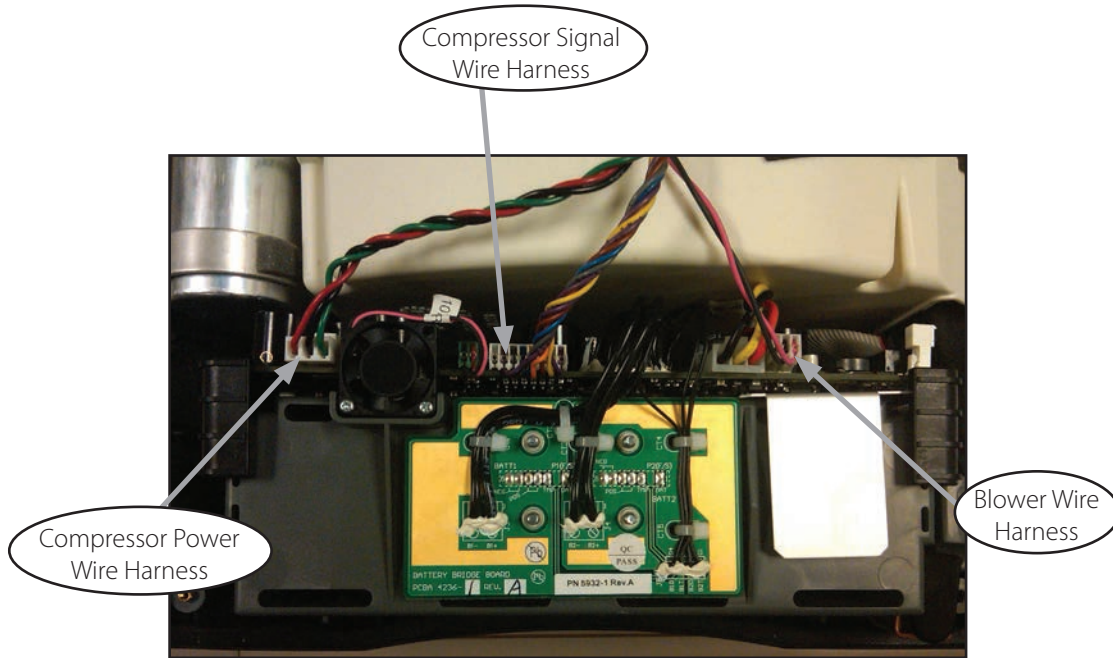

Figure 56: Compressor Box electrical connections.
3. Disconnect the 3 wire harnesses shown in Figure 56.
13. Plug the 3 harnesses into the Power Manager PCB as shown on Figure 56.